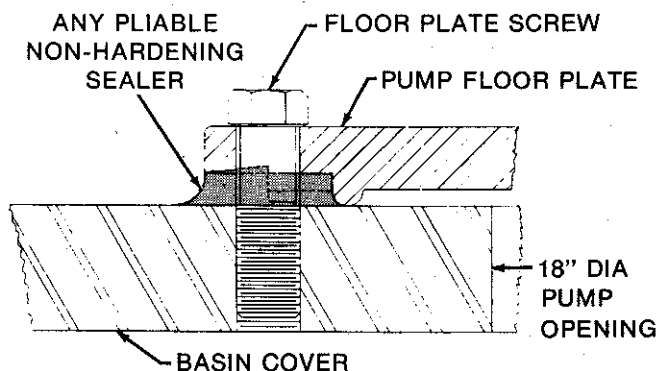

Figure 2. Sealing Pump Floor Plate
3. To block moisture and gas exchange between the basin pool and surrounding areas, the pump floor plate should be sealed to the basin cover as shown in figure 2.